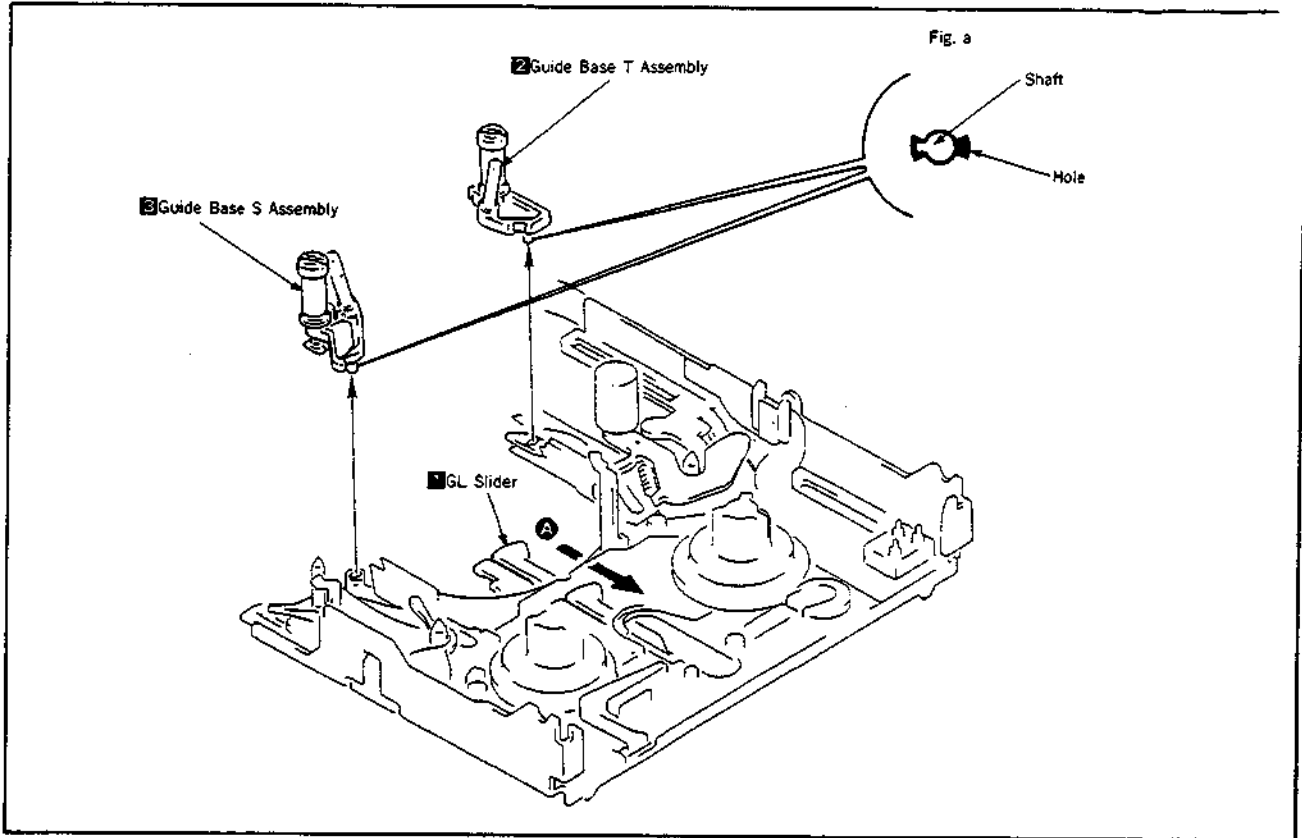

Fig. 15
3- GUIDE BASE T ASSEMBLY AND GUIDE BASE S ASSEMBLY (Fig. 15, 16)
- 5) Push in the GL slider ① toward the arrow ④, and remove the guide base T assembly ② and guide base S assembly ③ from the guide rail respectively as shown in Fig. 15.
- 1) Turning the guide base T assembly ② and guide base S assembly ③ respectively, align the shaft with a hole to mount as shown in Fig. a (Fig. 15).